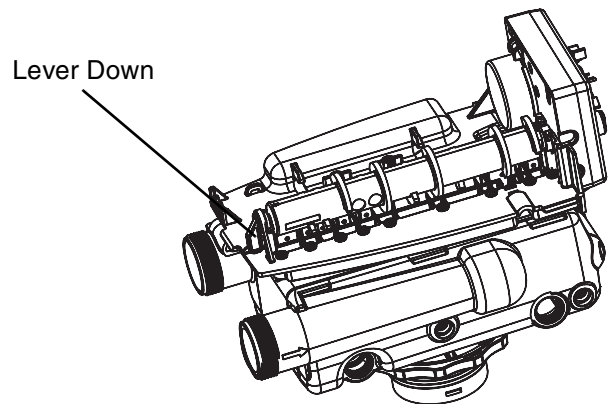

Figure 12
3. The control should be in service position (Figure 12).